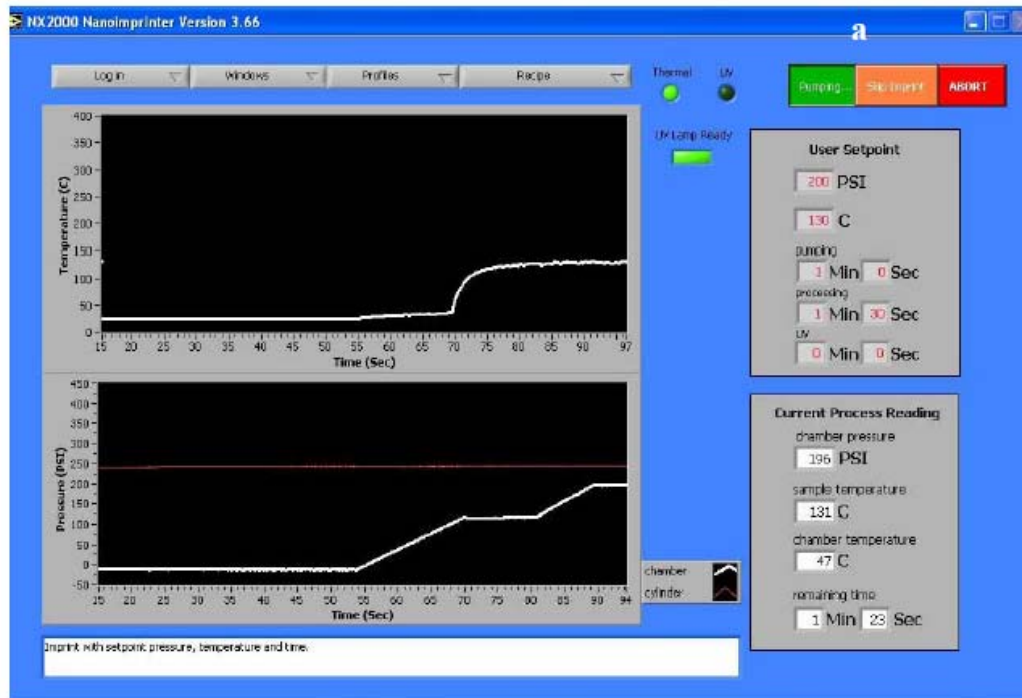

Figure 4-13 Skip imprint button activated during imprint
- o During imprint, you can click the “**skip imprint**” button (“a” in figure 4-13) to skip current imprint and directly go to cooling of sample.